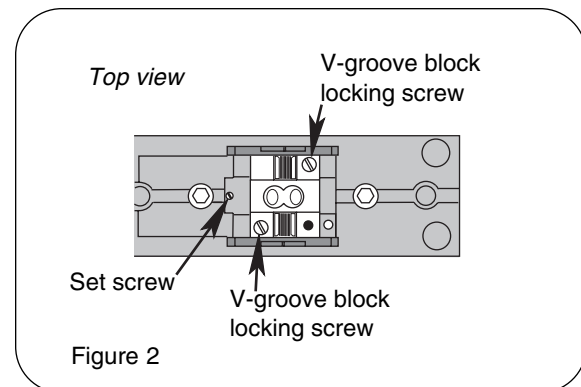

Figure 2
4. Completely loosen the two flat head screws that secure the V-groove block with the 5 mm screwdriver (Figure 2).
5. Use the small 2.3 mm screwdriver to loosen the small set screw in the V-groove alignment block by about three turns. **DO NOT COMPLETELY UNTHREAD THE SETSCREW** (Figure 2).